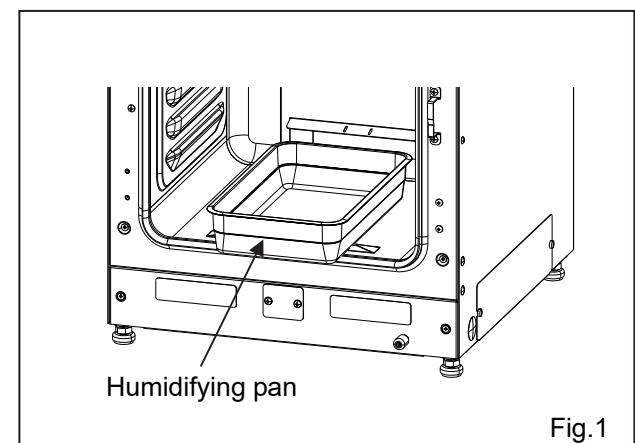

Fig.1
2. Set up the humidifying pan (Fig. 1).